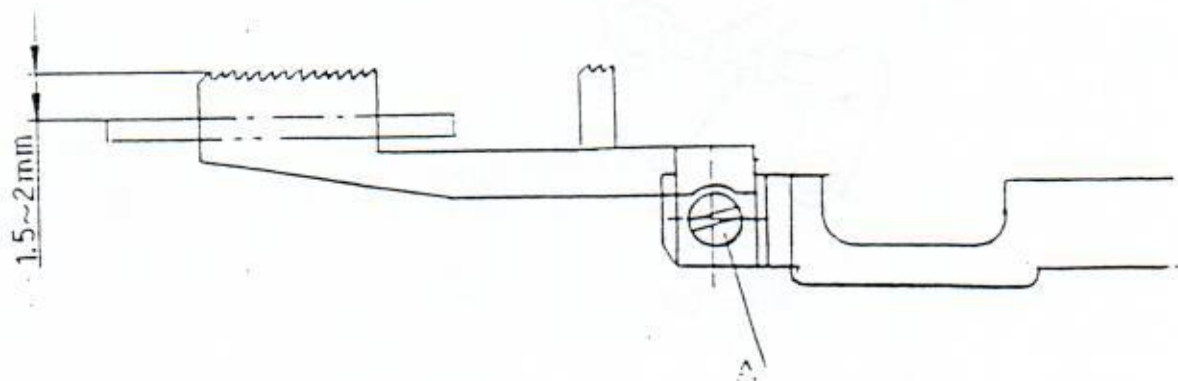

Fig. 36
The standard height of the auxiliary feed dog from the surface of the auxiliary plate is 1.5 to 2.0mm as indicated in Fig 36.
1. Loosen the auxiliary feed dog screw A in Fig 36.